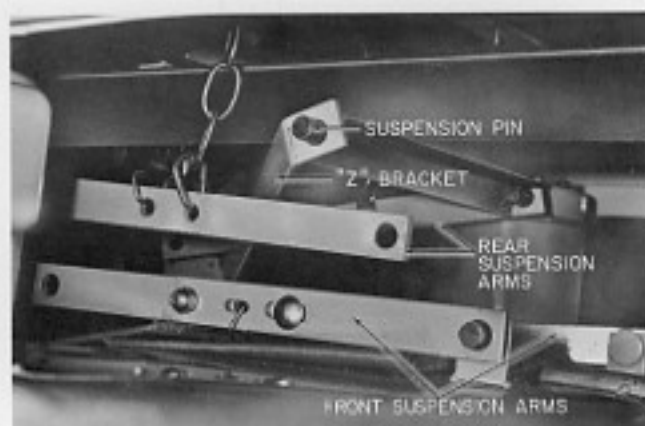

Fig. 21 "Z" Bracket Assembly
4. Lift the "Z" bracket from the mower deck and place the short end over the right rear suspension pin of the tractor (after removing hair pin cotter). Place the long end over the left rear suspension pin of the mower. (See Fig. 21.)